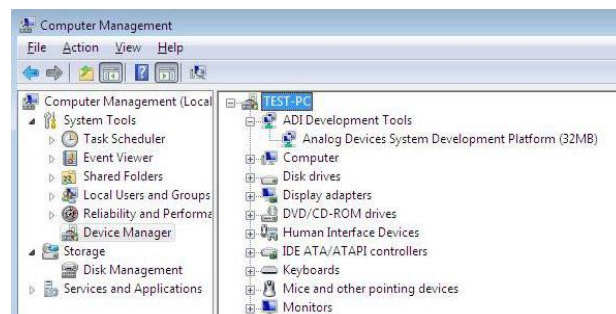

Figure 15. Device Manager: Checking the Board Is Connected to the PC Correctly
- The **Computer Management** box appears. Click **Device Manager** from the list of System Tools (see Figure 15).